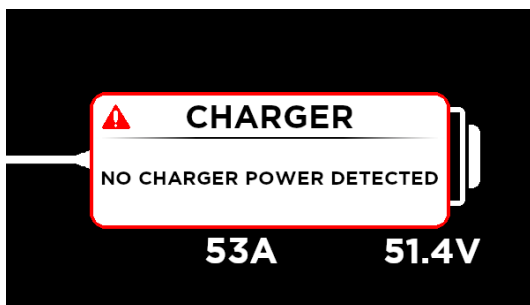

Fig. 22
- 2) A fault code "No Charger Power Detected" will come up on display screen until the charger is turned on. (Fig. 22 & 23) (If state of charge is over 95% fault code will not display) Fault code goes away once charger is plugged in and screen displays charging current, amps and display battery pack voltage. Display will automatically turn off after 15 minutes, but charger will continue to charge. To wake display while charging to see current state of charge, press the push button start and display will come back on or push again to turn display off.